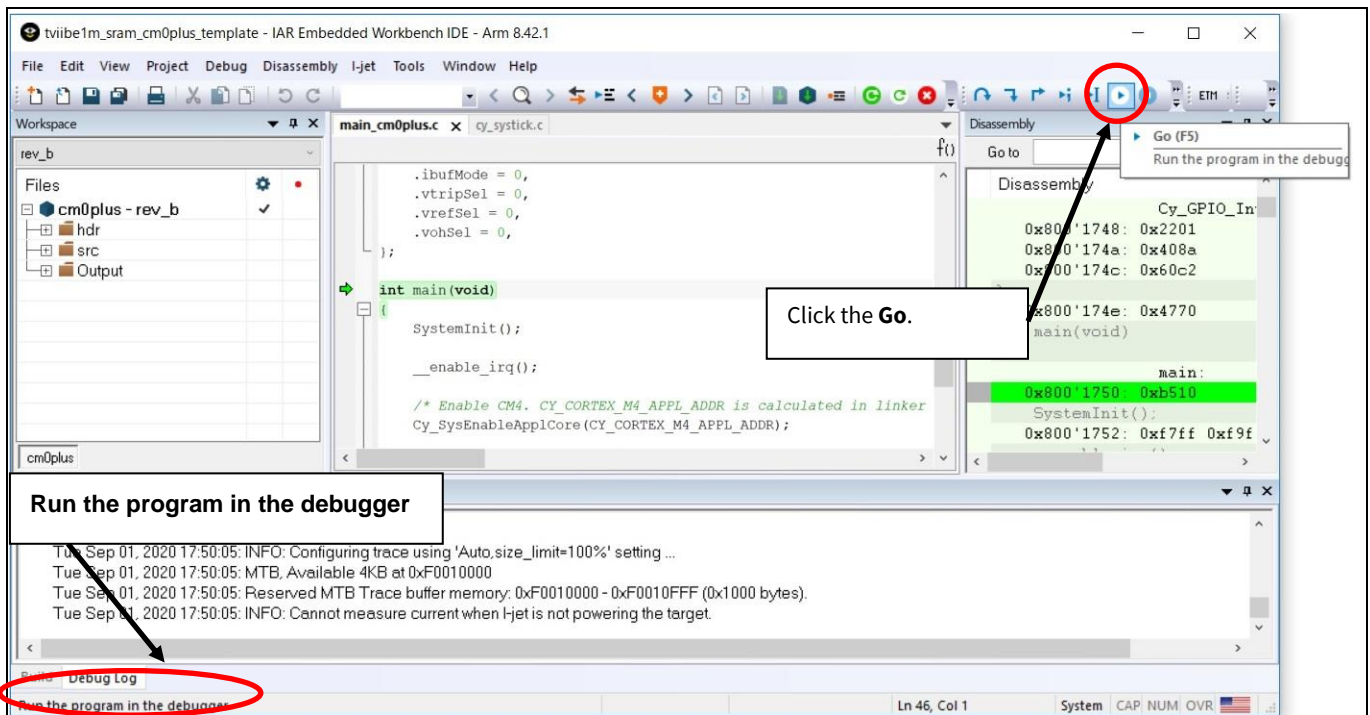

Figure 24 Execution on RAM
4. Click the **Go** icon as shown in **Figure 24**.